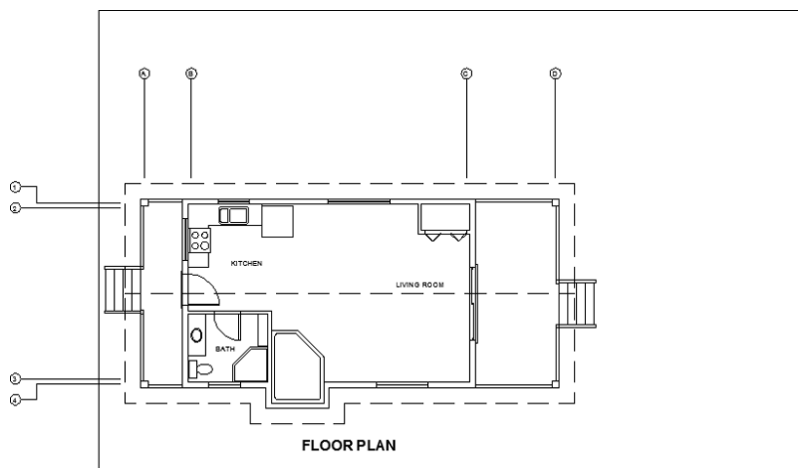

FIGURE 8.40: Zooming out to include the entire rectangle
2. Create a new layer called A-ANNO-TTLB. Assign the color Green (3), and make this layer current.
5. Use Zoom Extents to zoom out until the entire rectangle is visible in the drawing area (see Figure 8.40).